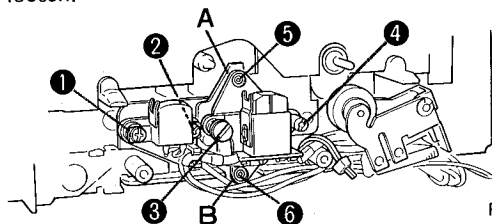

Fig. 6
2. Remove the screws 1 and 2 in Fig. 6 and then replace the erase head. Lock the screws 1 and 2 as not to loosen.
2. Remove the screws 3 and 4 in Fig. 6 and then remove the record/playback head. A and B sections in Fig. 6 are locked with paint, so you can remove the head easily by coming it off.
3. Attach the record/playback head by turning the screws 3 and 4 in Fig. 6 provisionally. You may turn the screw 3 fully, but the screw 4 is for the azimuth adjustment and the screws 5 and 6 are for the positional adjustment. So you should refer to the mechanical adjustment step 1 to 3 and electrical adjustment step 2. And after completing the adjustment, apply screw look paint.